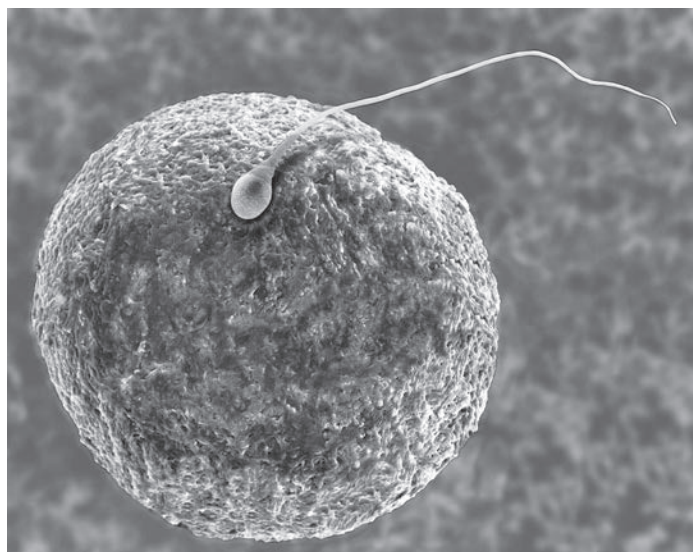

Fig. 2.2
(b) Fig. 2.2 is a different photomicrograph of an ovum and one sperm cell.
- (i) Make a large drawing of the ovum and the sperm cell shown in Fig. 2.2.
(ii) State **three** visible differences between the ovum and the sperm cell that can be seen in Fig. 2.2.